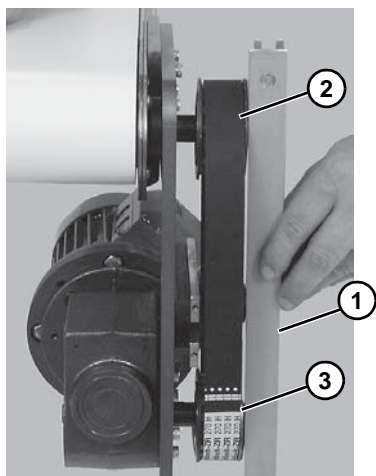

Figure 11
7. Using a straight edge (**Figure 11, item 1**), align driven pulley (**Figure 11, item 1**) with drive pulley (**Figure 11, item 1**).